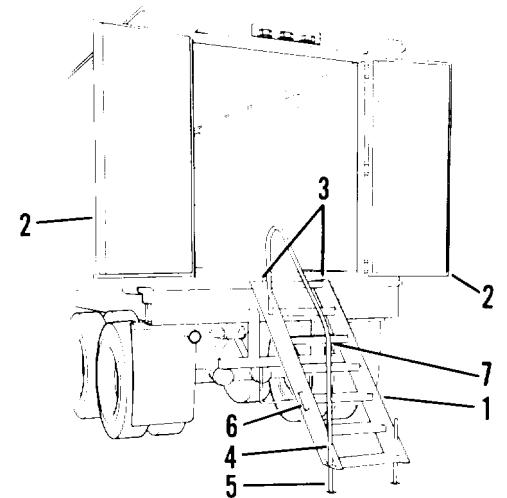

Figure 2-26. Positioning ladder
- (2) With van body doors (2, figure 2-26) open, hook ladder (1) in mounting holes (3) on van.
- (3) Remove pins (4) from adjustable legs (5). Remove adjustable legs (5) from mounting brackets (6).
- (4) Install adjustable legs (5) on lower ladder (1). Secure with lower pins (4).
- (5) Install handrail (7) on adjustable leg (5).